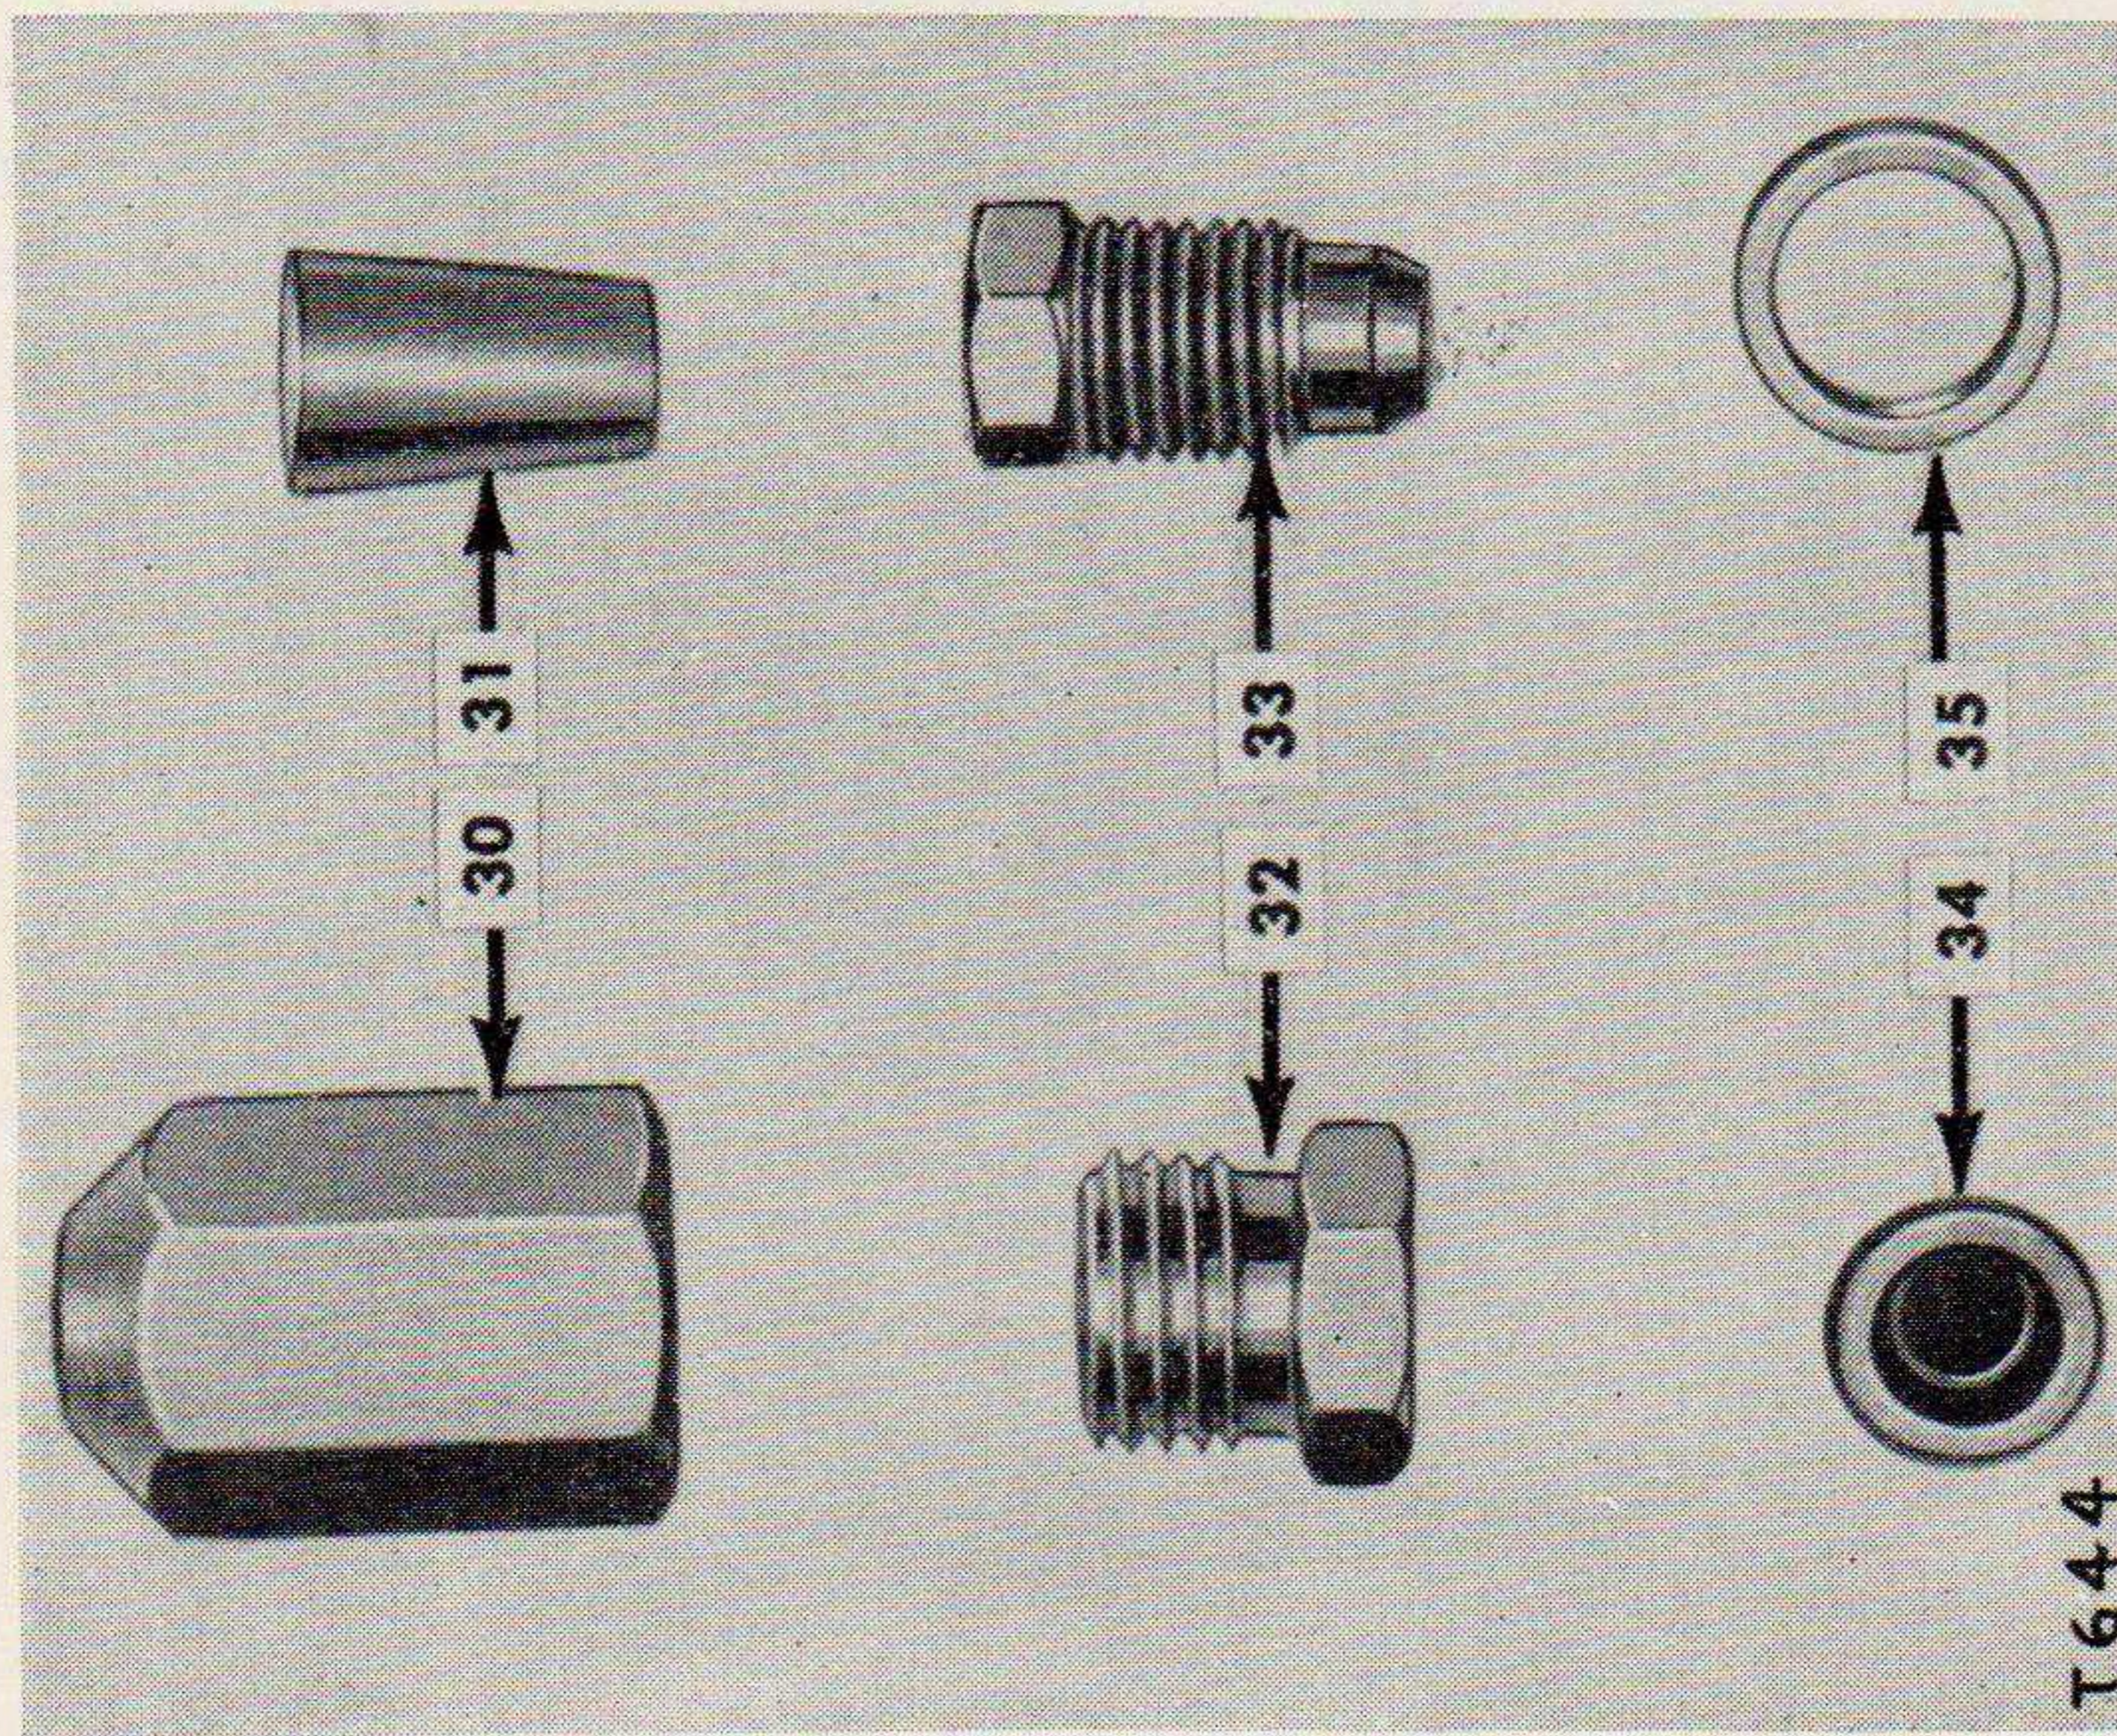
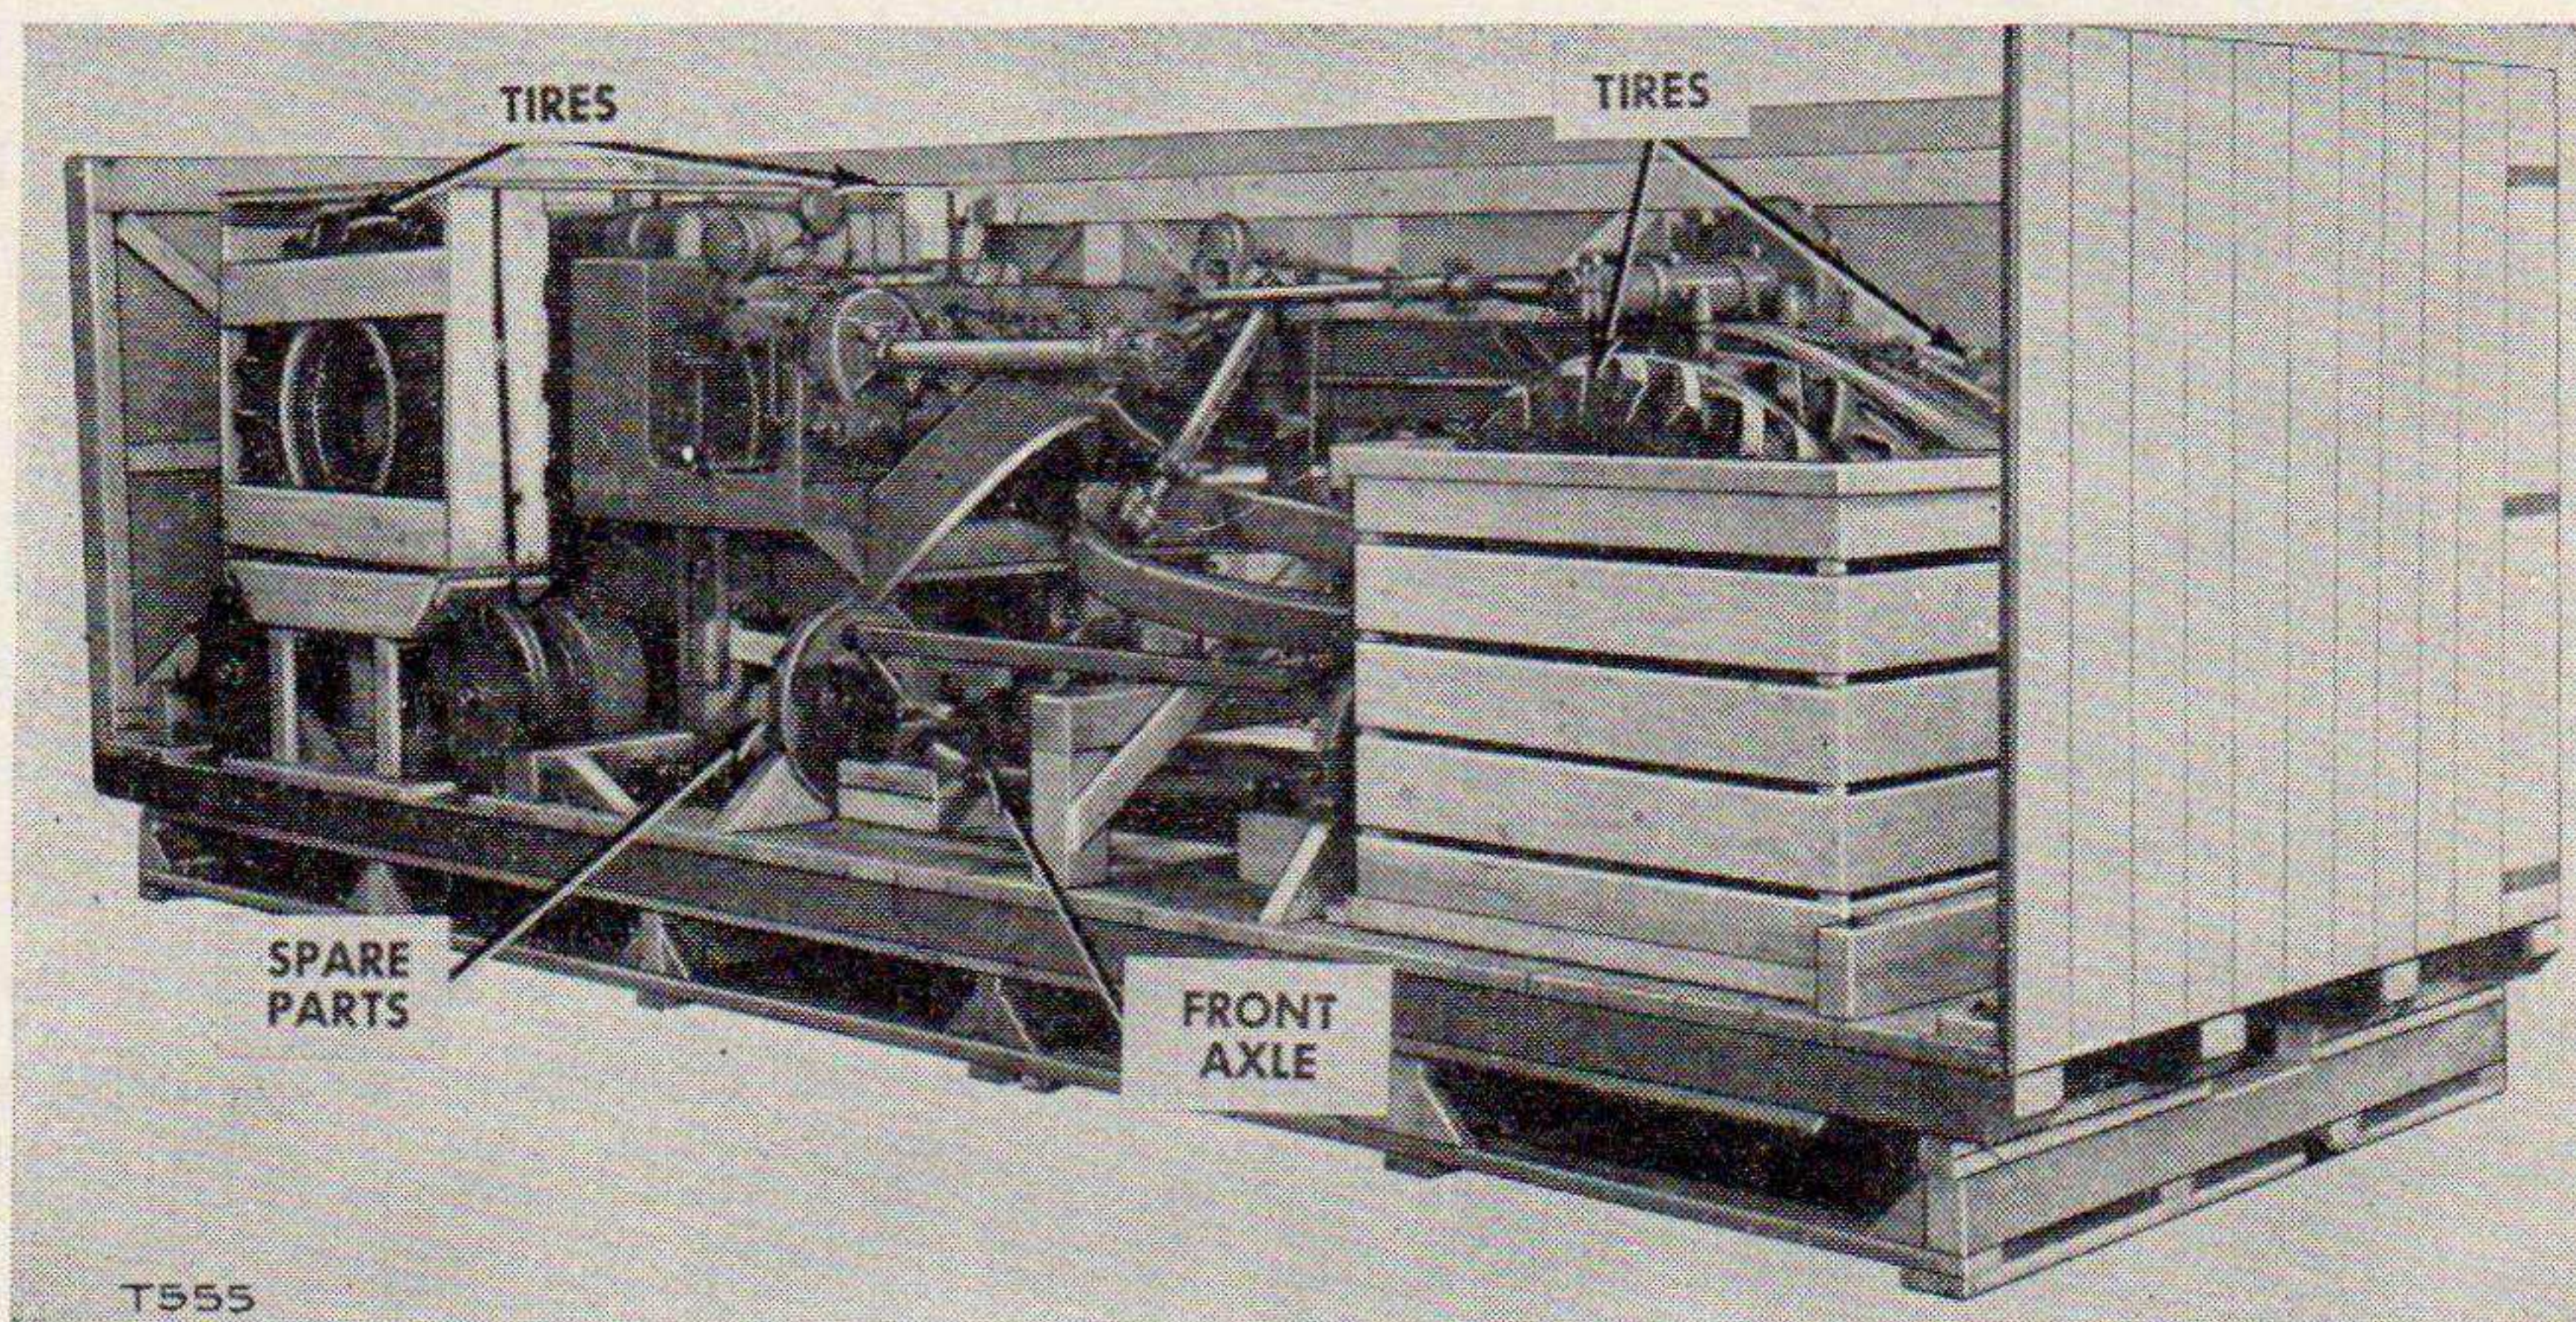
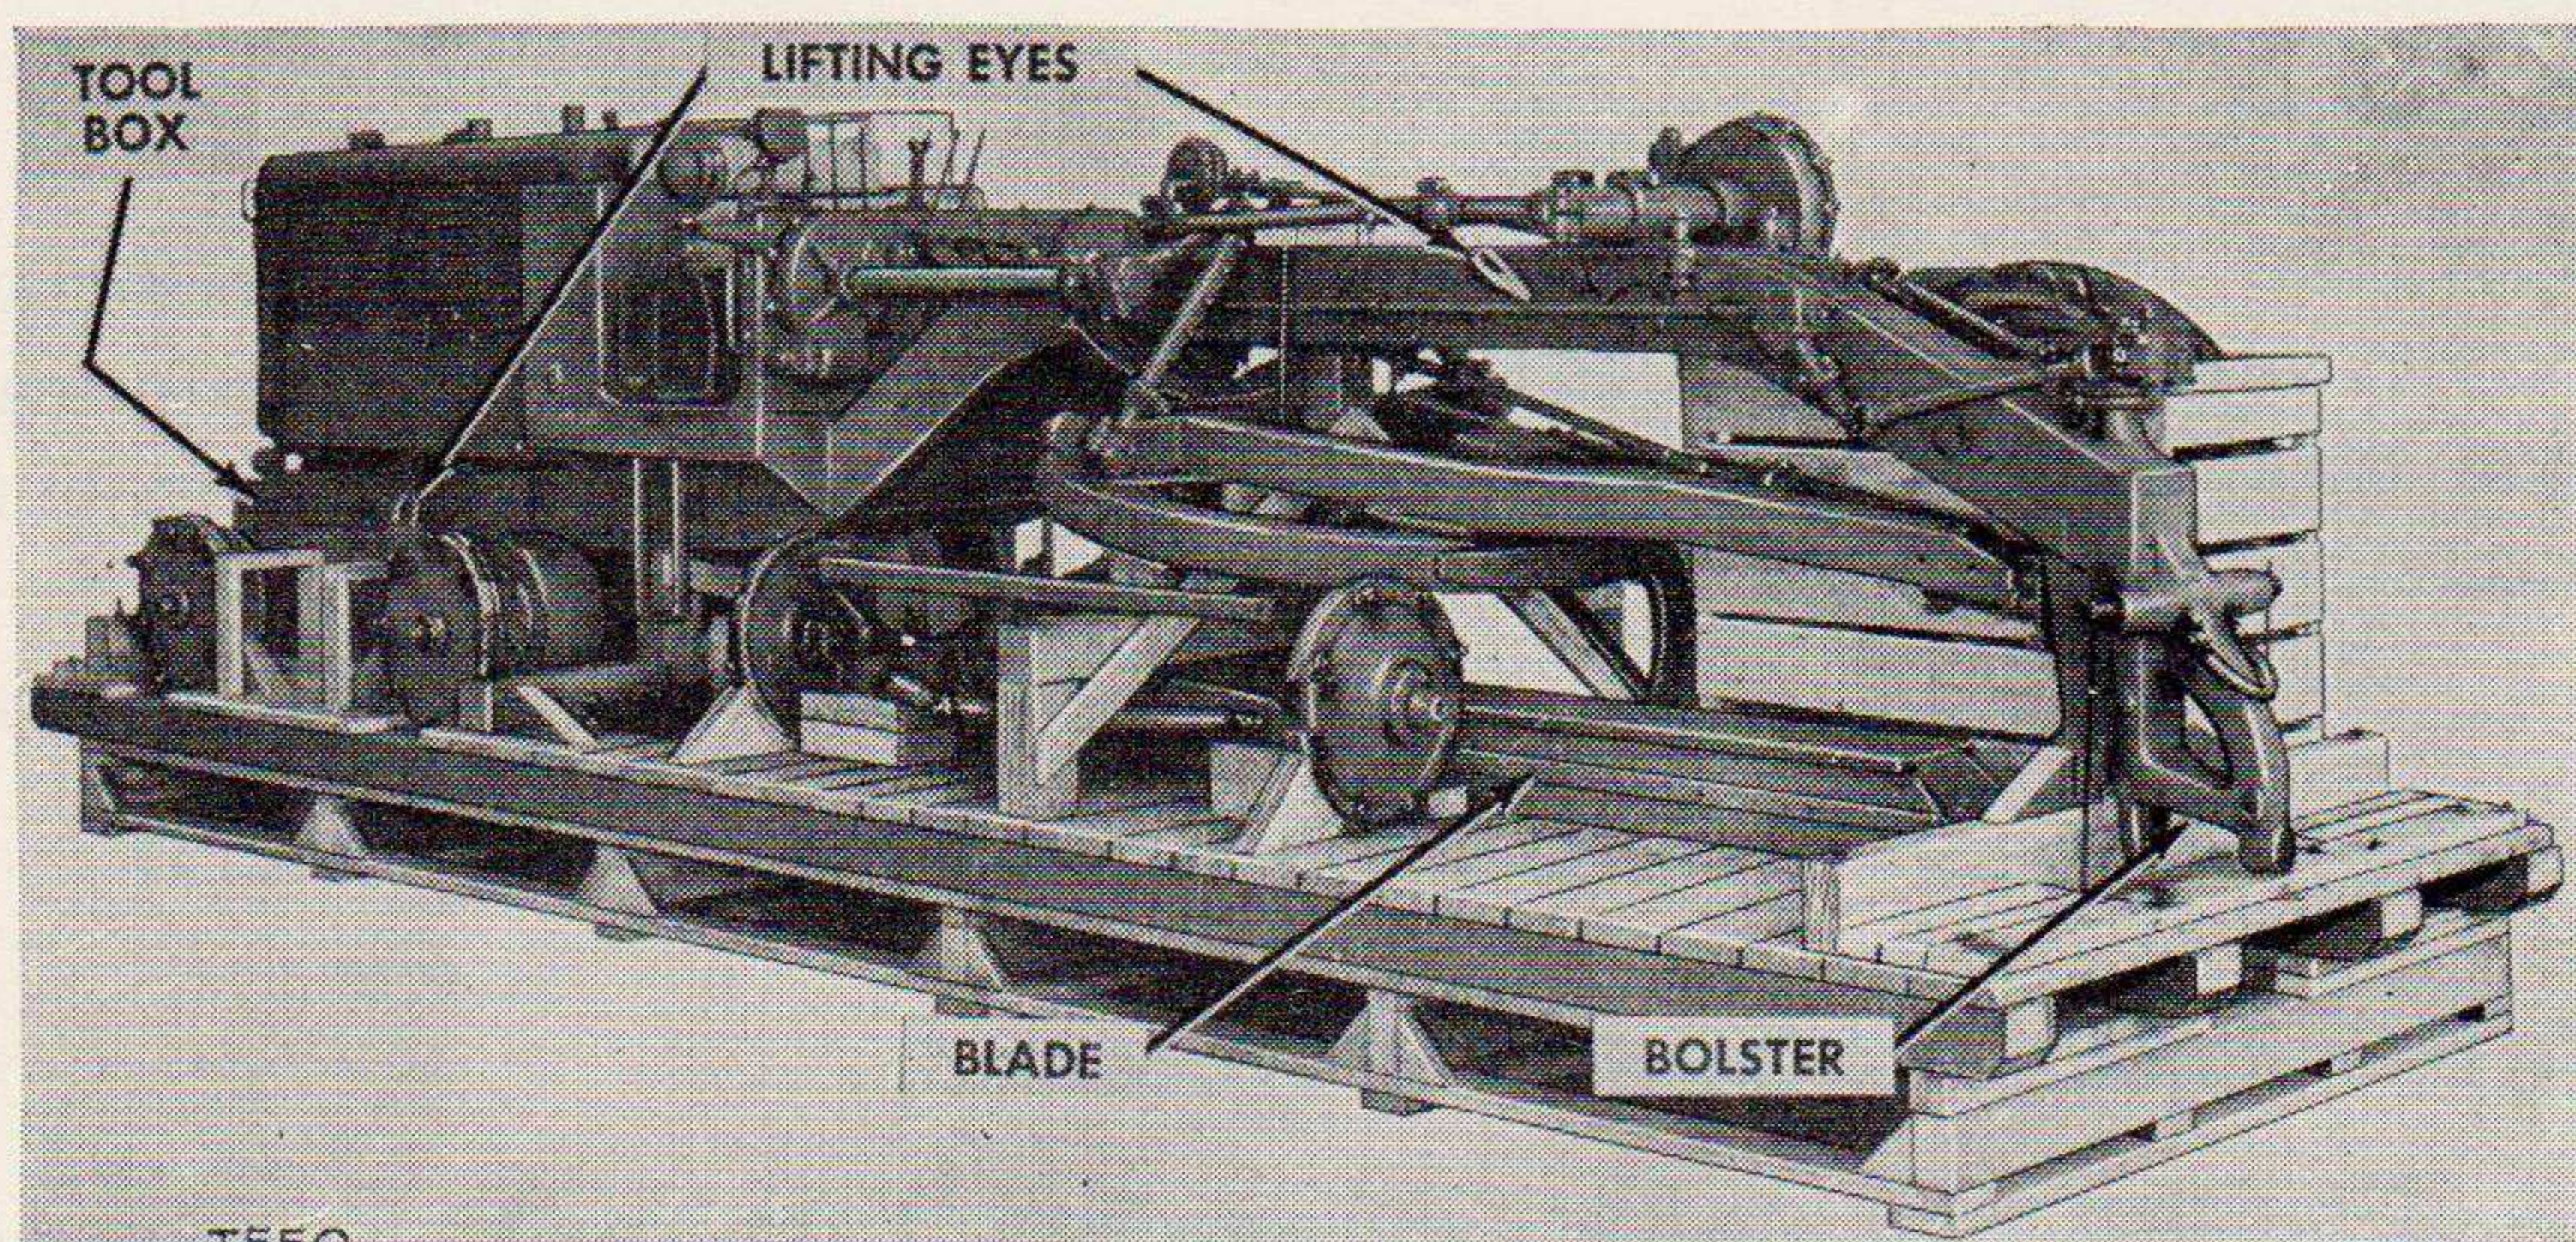

Figure 4.—Continued.
Figure 6. Uncrating motor grader.
Figure 7. Removing motor grader from box.
Figure 4 lists and illustrates the tools which accompany each tractor.
\*\*When replacement fittings are required order the standard ordnance fittings, identified in figure 6, sheet 3.
*b.* UNCRATE THE MOTOR GRADER. Remove the sides of the box in which the motor grader was shipped. (See fig. 6.)
c. **LIFT OFF THE TIRES.** Lift out the crates containing the motor grader tires. (See fig. 6.)
e. **LIFT OFF THE MOTOR GRADER.** Lift the motor grader off the bed using the lifting eyes provided on the frame and tandem drive housings. (See fig. 7.)
f. **TOOLS AND SPARE PARTS.** The tools, publications, and fire extinguisher are packed in the tool box. (See fig. 7.) Check the tools using the list in figure 4 as a guide. The spare parts are packed in a box located in the center of the shipping box bed. (See fig. 6.)